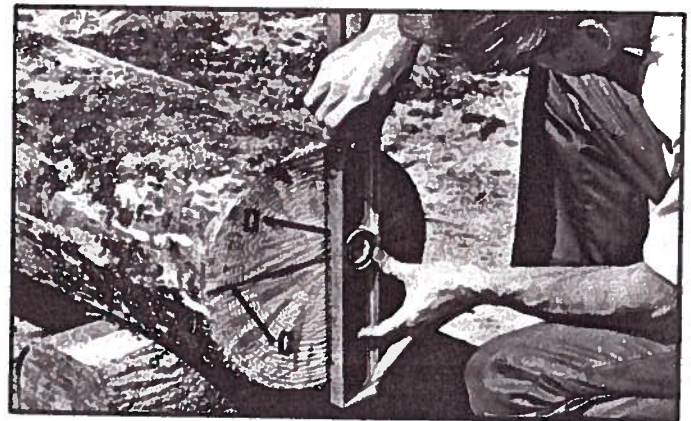

Fig. 39
3. Then, using a level, extend the horizontal line (C) Fig. 39, across the log. Repeat on opposite end of log. Both lines must be level. NOTE: To obtain maximum yield from the log all cuts will be referenced from the horizontal line. However, if it is desired to square the log, a vertical line (D) must also be drawn on both ends of the log, as shown in Fig. 39.